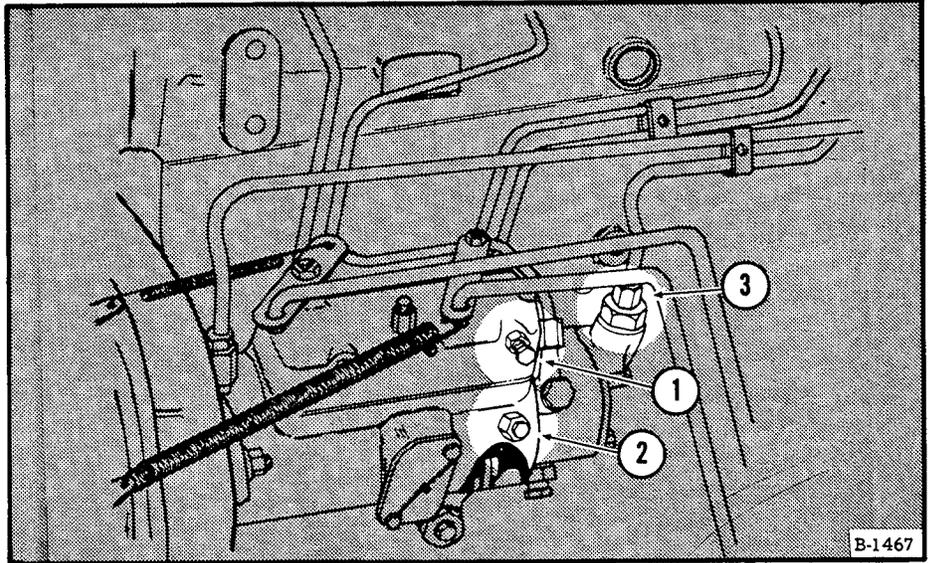

Fig. 1-27 Removing Air From Injection Pump
- (1) Loosen vent screw located near top of governor control lever (Fig. 1-27, Item 1).
- (2) Loosen vent screw located on the side of fuel pump (Fig. 1-27, Item 2).
- b. Fuel pump vent screw (Fig. 1-27, Item 2).
- c. Governor vent screw (Fig. 1-27, Item 1).
- (6) Loosen fitting at fuel injection pump inlet (Fig. 1-27, Item 3).